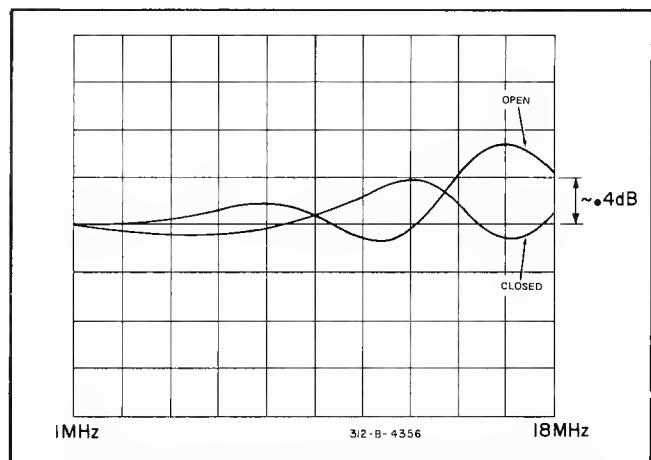

Figure 5-18. Relative Effect of A33C10 with all Other Controls Set Correctly.
- f. The effects of adjusting each control are illustrated in Figures 5-18 through 5-22. Before adjusting any of the controls, study each figure to see if any of the waveforms resemble the frequency response curve on the oscilloscope.
h. After comparing the frequency response display to Figures 5-18 through 5-22, adjust the corresponding controls for the best response.